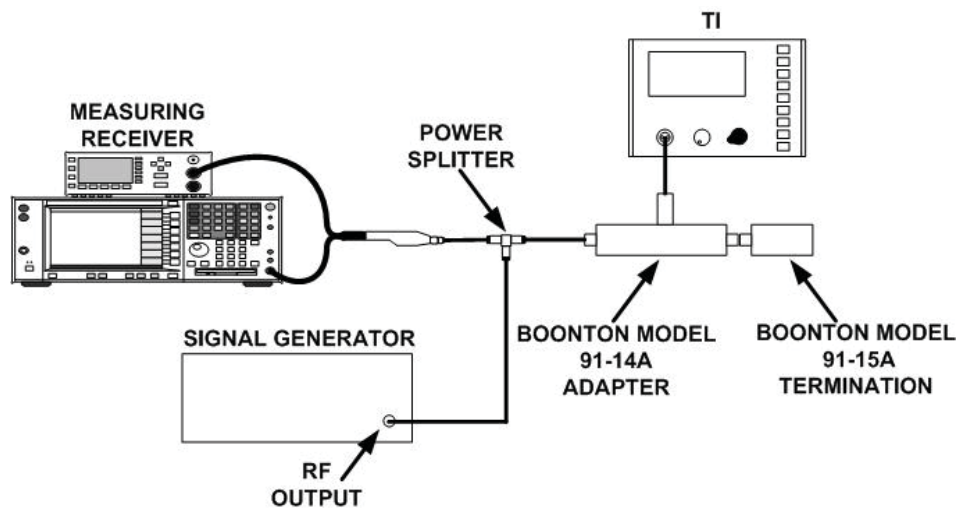

Figure 1. Frequency response - equipment setup.
(25) Disconnect TI probe from calibrator.
(26) Connect equipment as shown in figure 1.